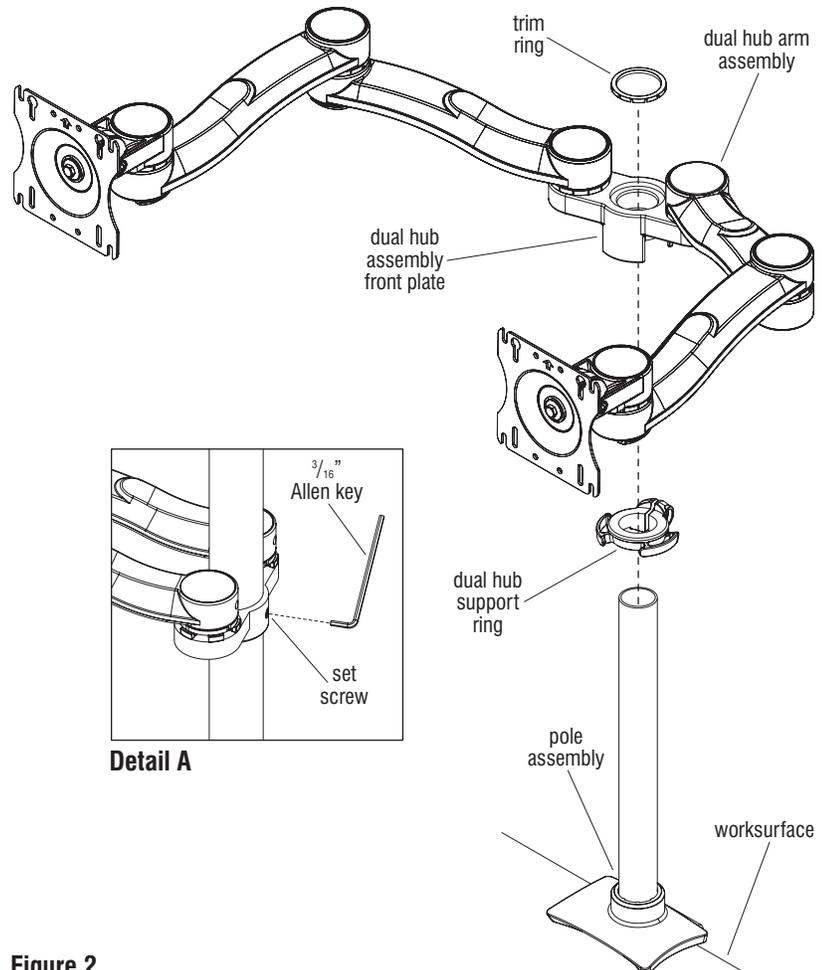

Figure 2
4. Slide the dual hub support ring down the pole to the desired height of the monitor screen. Twist knob on the support ring to secure in place (Figure 2).
5. Place the dual hub arm assembly down the pole into position on top of the dual hub support ring (Figure 2). Tighten the set screw in the dual hub arm assembly for correct tension to pole assembly (Detail A).
6. Mount the trim ring on top of the dual hub arm assembly (Figure 2).